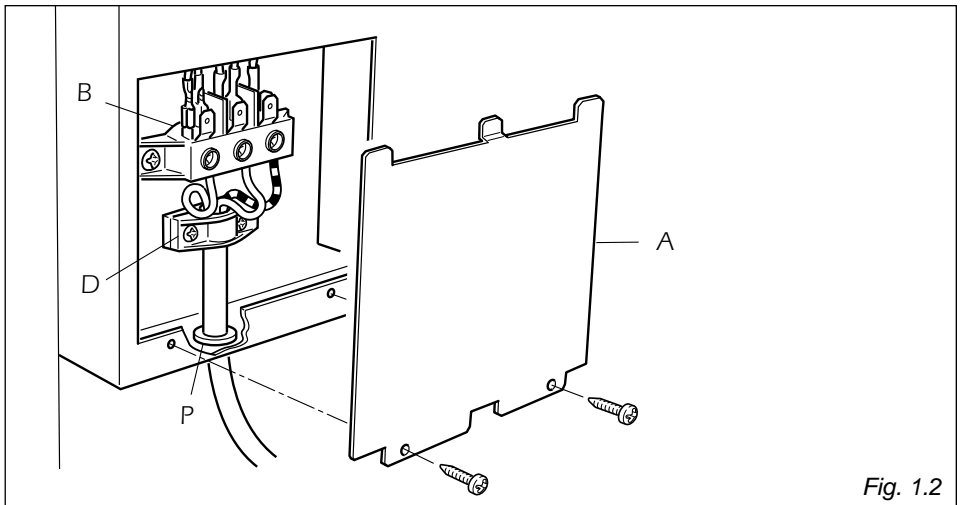

Fig. 1.2
- Connect the phase and earth cables to terminal **B** according to figures 1.2 and 1.1.